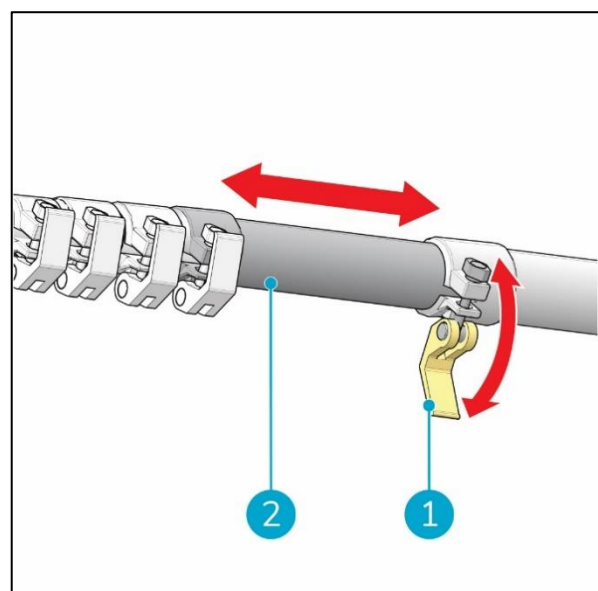

Figure 11
1. Unlock the yellow clip (Figure 11, pos 1) and then pull the tube out (Figure 11, pos 2).
2. Lock the yellow clip to fixate the tube (Figure 11, pos 1), check that the tube cannot move anymore.